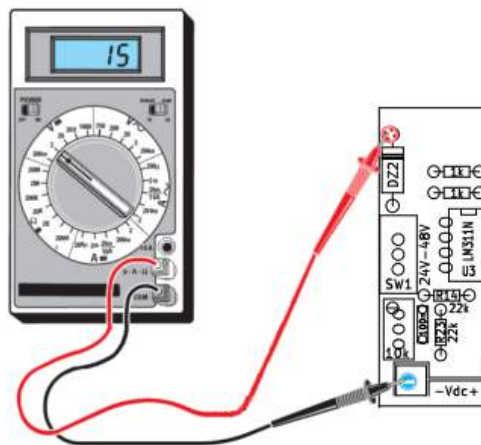

Figure 3.6: How to measure the supply voltage
3. Check the voltage between the ground and the cathode of the Zener diode (see figure 3.6) with a Voltmeter or an oscilloscope. The voltage should be between 13 and 16 Volts.